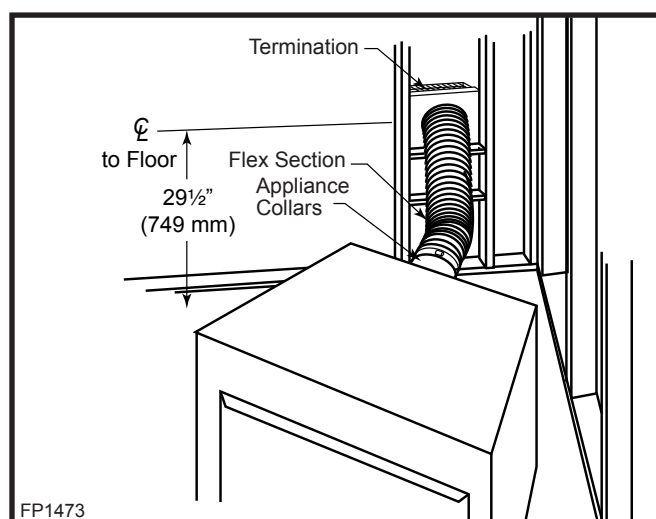

Fig. 20 Grasp the vent pipe close to the collar and bend to 45° angle. Do not exceed 45°.
NOTE: The corner placement dimensions on Page 4 of the manual must be adhered to! Figures 20 & 21 show general installations. Refer to instructions below for a detailed description of installation.
1. Determine where the termination is to be installed. **Locate the center of the hole 29½" (749 mm) off the floor. (Fig. 20)**